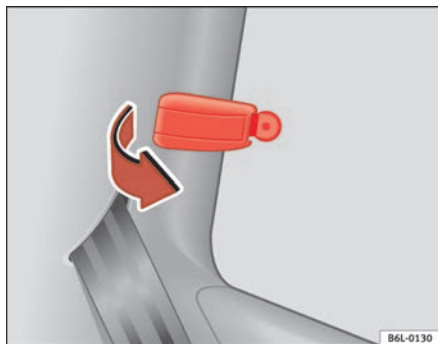

Fig. 53 Release lever for mechanical vent wing
- Pull the release lever ⇒ fig. 53 in the direction of the arrow and push it out at the same time until the lever engages. The lever inserts when the deflector is half open or fully open.